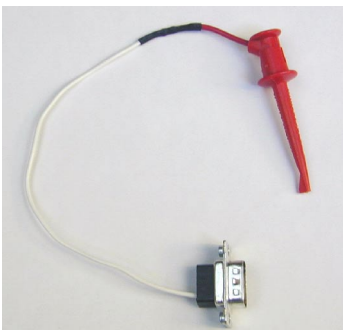

Figure 5 APPI Internal cable
- APPI internal cable - Figure 5.